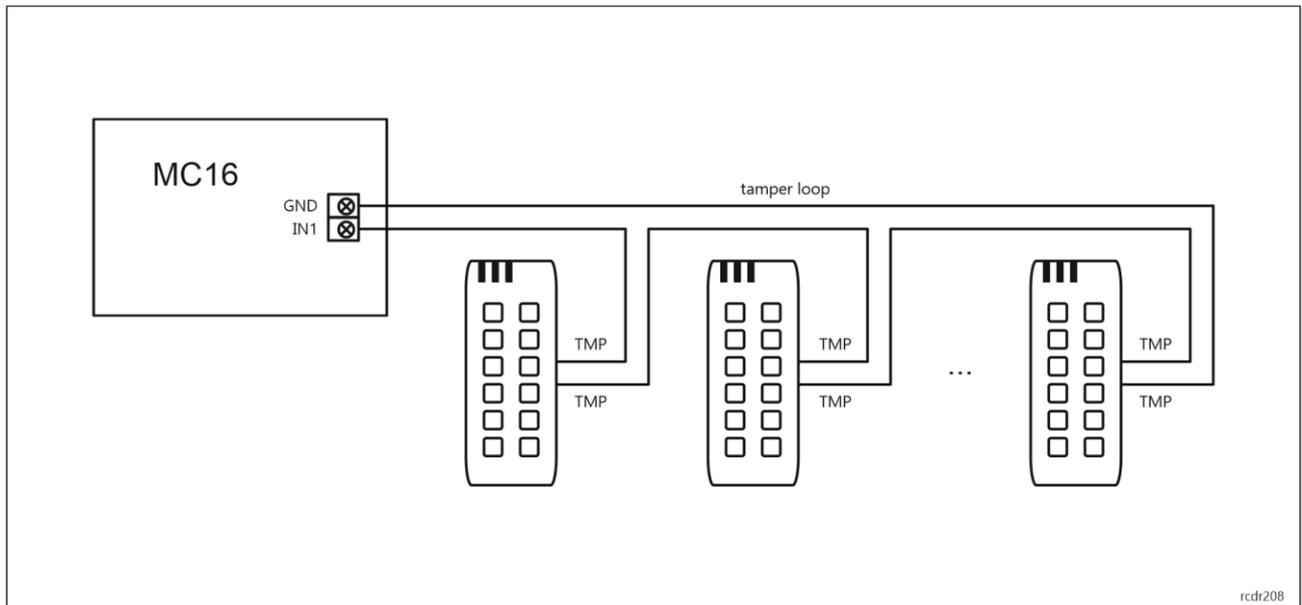
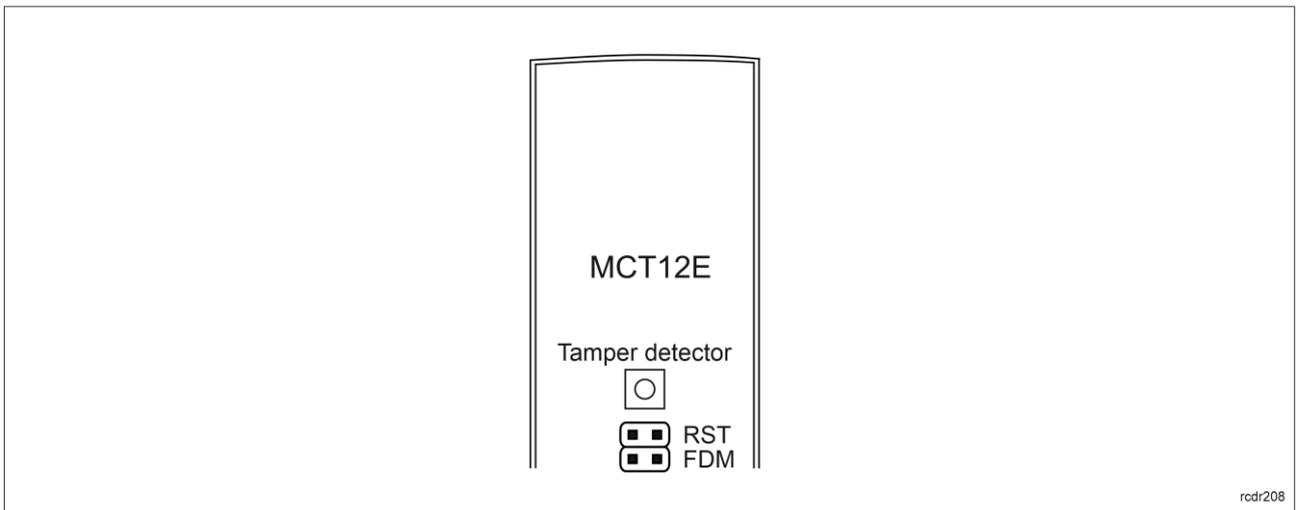

Fig. 3 Tamper loop example
Fig. 4 Programming jumpers
Built-in tamper (sabotage) detector enables detection of unauthorized opening of device's enclosure as well as detachment of the enclosure from wall. The detector is internally connected to the terminal's TMP wires. It does not require low level configuration (RogerVDM) but it is necessary to connect it to controller with wires as in example in fig. 3. It is also essential to mount front panel in such way as the tamper detector (fig. 4) would firmly press the back panel.
- Front panel should be attached in such way as the tamper detector (fig. 4) would firmly press the back panel.
2. Place jumper on FDM contacts (fig. 4).